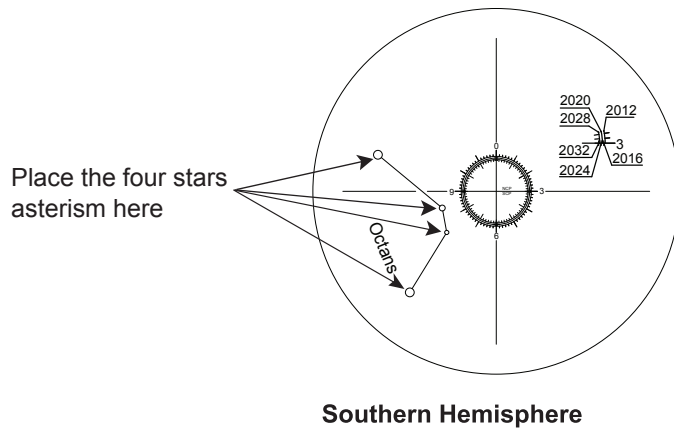

Fig. 3.2a
Once the mount is powered up and the polar scope is illuminated, the pattern in the above figure (Fig. 3.2a) should be visible in the field of view (FOV) of the polar scope. If the image appears blurred, rotate the knurled ring of the polar scope's eyepiece to focus.
2. **For observing in Southern Hemisphere:** In the FOV of the polar scope, locate the 4 dim stars (Around Magnitude 5 to 6) which form the pattern like the "Octans" drawing in the polar scope (refer to Fig. 3.2a). Loosen the R.A. clutch and rotate the R.A. axis to align the orientation of the "Octans" drawing to the 4 stars. Then use the elevation adjustment bolts and the azimuth adjustment knobs to move the 4 stars to the 4 small circles of the "Octans" drawing.
As the Polaris is not located exactly at the North Celestial Pole, we can see it orbits the North Celestial Pole in a polar scope. The large circle seen in the center of the pattern in Fig. 3.2a is a representation of the Polaris' orbit around the North Celestial Pole. When performing the polar alignment process, it is necessary to determine the orientation of the Polaris on the circle. We can use the following 2 methods to get the orientation:
2. At the end of the initialization of the SynScan hand control, after entering the proper local longitude, latitude, date, time, and daylight-saving time, the SynScan hand controller will display the message: "Polaris Position in P.Scope=HH:MM". Imagine the larger circle in Fig. 3.2a as a clock's face with 12:00 at the top, with the current time pointing to the "HH:MM". The orientation of the hour hand of the clock represents the orientation of the Polaris in the polar scope. Put the Polaris to the same orientation on the large circle to finish the polar alignment.
Polaris position also changes as time passes. The reticle in Fig. 3.2a displays 3 circles to represent Polaris's orbit in year 2012, 2020 and 2028. It also gives sub-dials at 0, 3, 6, and 9 o'clock position for year 2016, 2024 and 2032. An engraving labeled with the above years is also displayed on the right of the FOV for memo purpose. When doing polar alignment in Northern hemisphere, the user should put Polaris on the correct circle corresponding to the present year for better alignment precision.